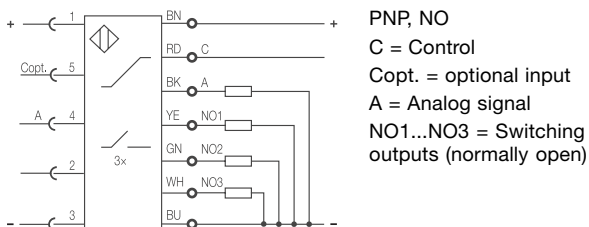

Fig. 2: Connection diagram BES 516-615-PS-1-PU- (PNP)
- Connect the Control input (C) through a switch to + (Fig. 2, 3).
- 1 Connect the Control input (C) through a switch to + (Fig. 2, 3).